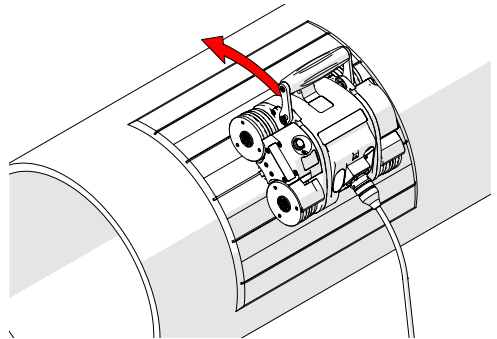
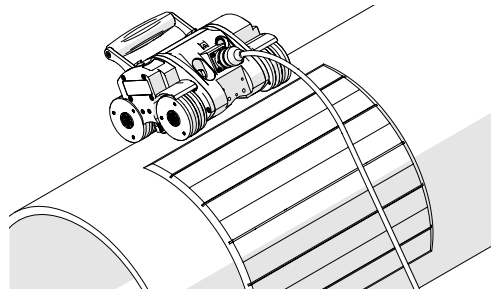

Fig. 82 - Drive crawler off the mat
Fig. 83 - Magnetized to surface
5. Ensure all four wheels of the crawler are held firmly against the installation/removal mat. While holding the crawler, use **Jog Mode** (see “Jog Mode” on page 52) to carefully drive the crawler (Fig. 82) off the installation/removal mat and onto the inspection surface (Fig. 83).